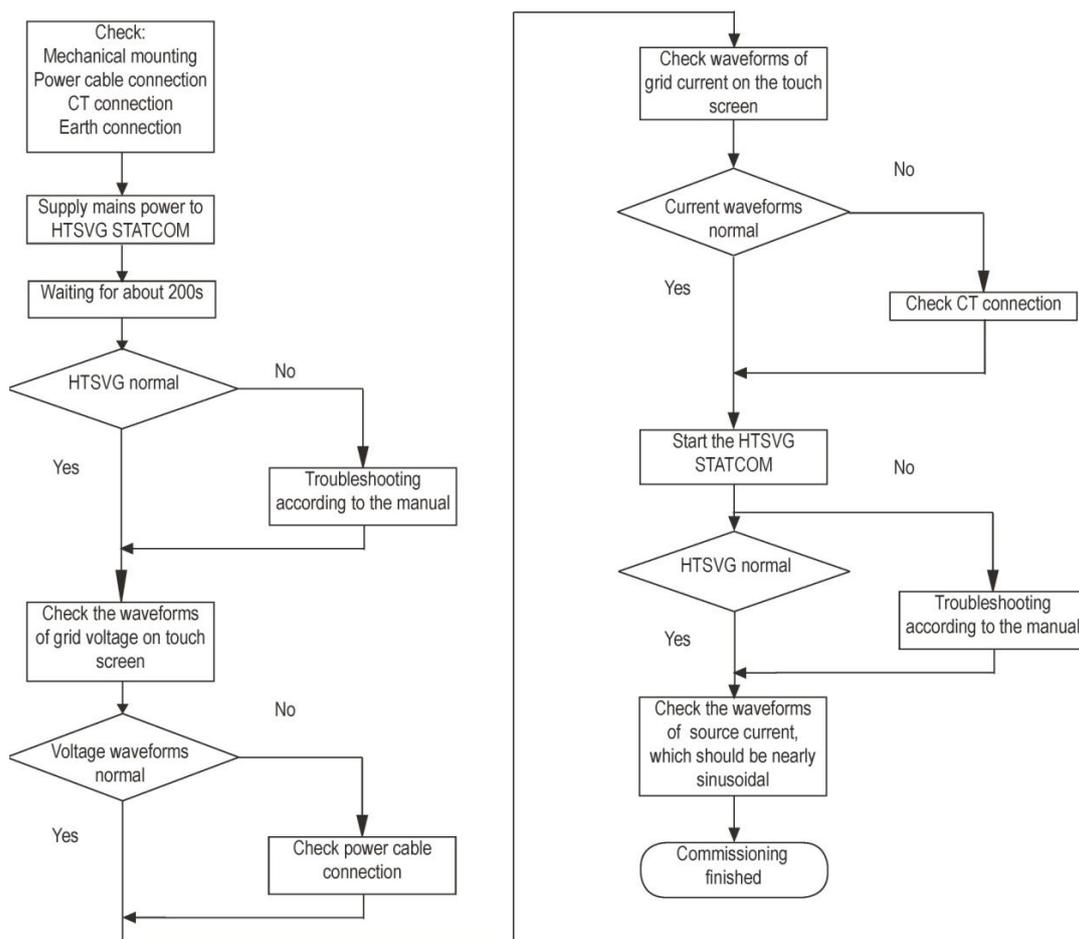

Fig.30: Commissioning flow chart for HTSVG LV STATCOM
5. For more detailed information, please follow the flow chart as shown in Fig.30.